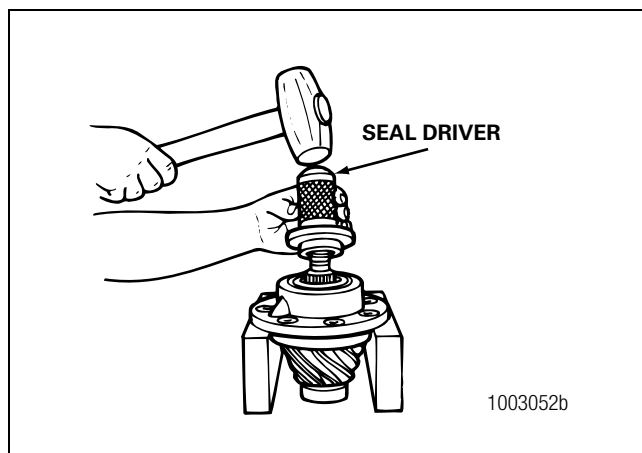

**Figure 5.19**
- A. Apply the same lubricant used in the axle housing to the outer surface of the seal and the seal bore in the bearing cage. Figure 5.19.